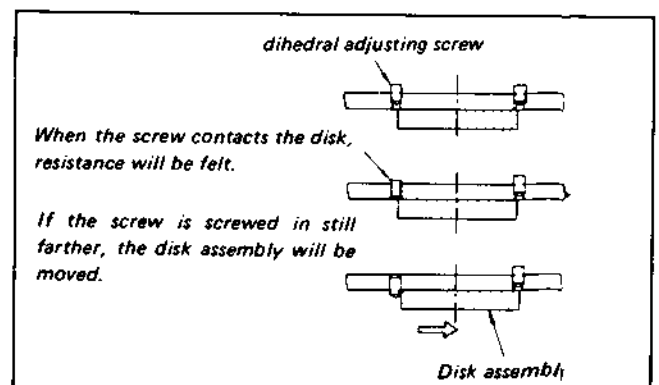

Fig. 3-12 Video head dihedral adjustment (3)
- 2) Of the two adjusting screws, screw in farther either one of them until resistance is felt. Screwing in the screw farther, the video head moves, and dihedral adjustment can be made. (See Fig. 3-12)